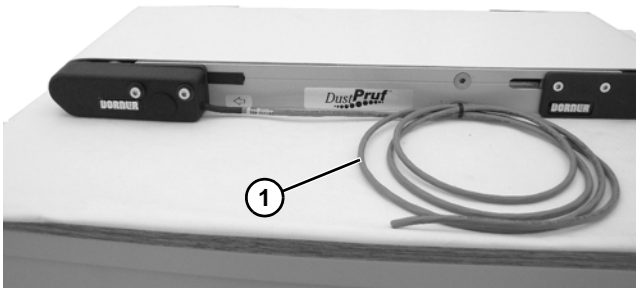

Figure 31
1. Locate lead wires (Figure 31, item 1) extending from iDrive cover. Determine wiring diagrams based on diagrams above.